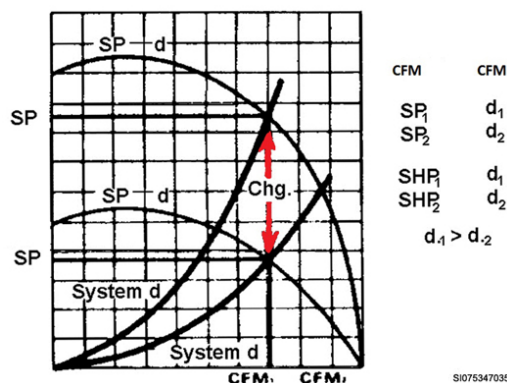

Figure 2-14. Effect of density change (constant volume).
The fan volume or airflow measured in cfm will not change with changes in air density. A fan is a constant-volume machine and will produce the same airflow no matter what the air density may be (fig. 2-14). This figure shows you static pressure (SP) on the left and cubic feet per minute (cfm) on the bottom. The upward sloping line closet to the bottom represents the original air density. A rise in density is demonstrated by the next upward sloping curve. Notice the vertical line rising up from “cfm.” This vertical line represents NO change in air volume. This graph has shown us how density does not effect air volume because a fan is a *constant-volume machine*.